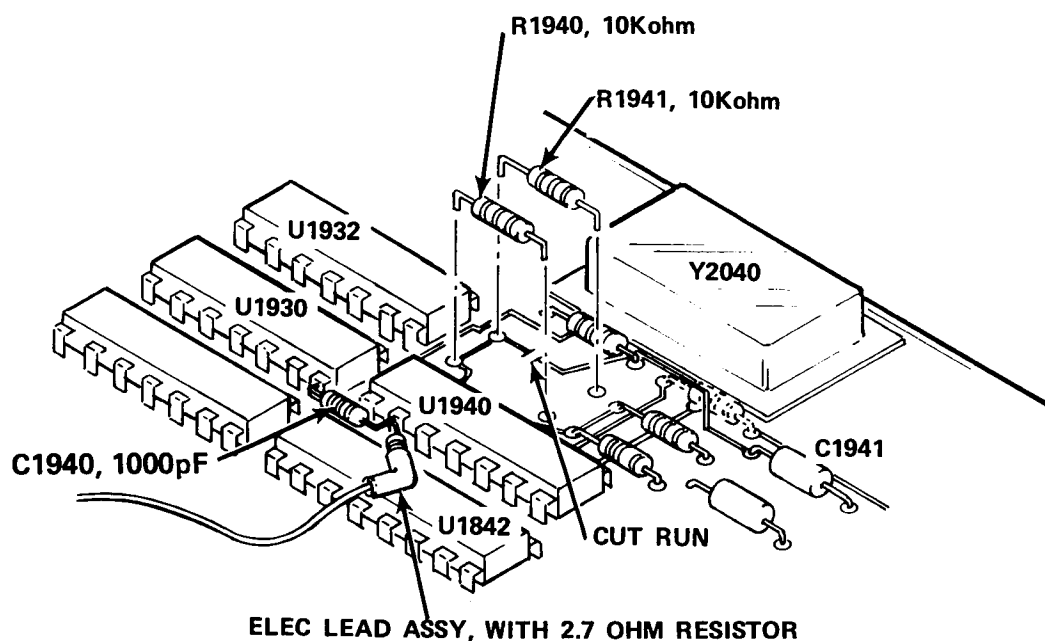

Figure 11. - R1941 & C1941, & cut ckt bd run.
- () 22. On the front (component) side of the circuit board remove a section of the circuit board run connecting R1941 to C1941, refer to Figure 11.
- () 29. Solder one lead of C1940, 1000pF , capacitor, pn 281-0812-00, to pin 7 of U1930. Solder the remaining end of C1940 to pin 2 of U1940, refer to figure 11.
- () 30. Solder the electrical lead, assembly, pn 196-3227-00, that is provided in this kit, to pin 2 of U1940, refer to figure 11.